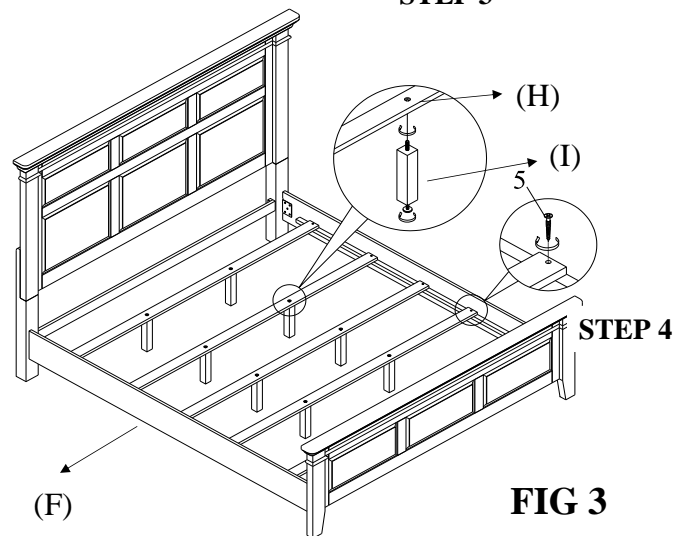

FIG 3
STEP 3: Attach Support Legs (I) to the Slat (H) as shown in FIG 3.
STEP 4: Attach Slat with Support Legs (I&H) to the Side Rails (F) using Screws (6) as shown in FIG 3.